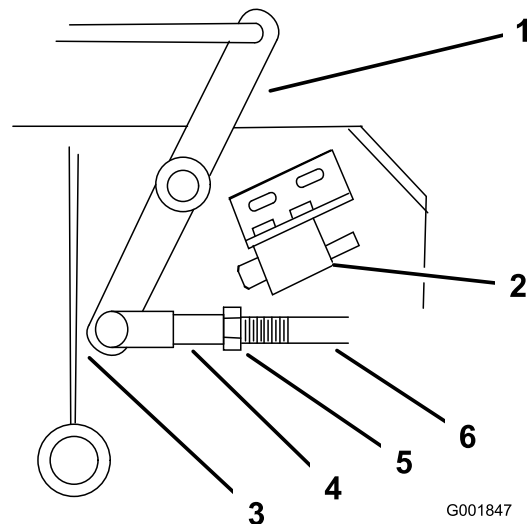

Figure 42
4. Adjust the linkage length to where the lower end of the bellcrank just clears the axle-support gusset (Figure 42).
9. Loosen the nut against the yoke (Figure 42).